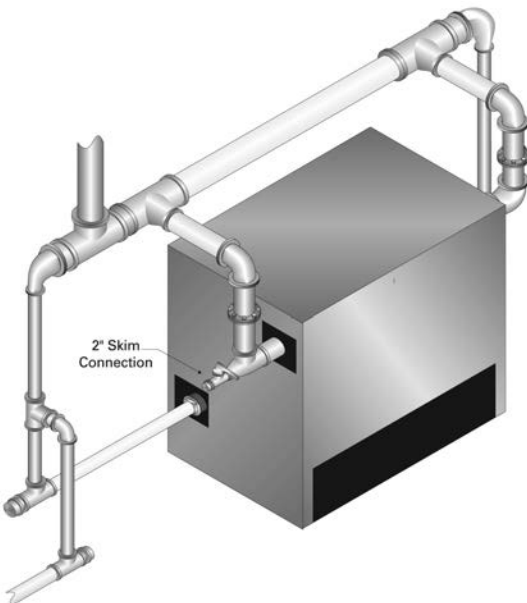

Figure 5.4: Left Hand Piping Arrangement – Typical
7. The piping in these drawings is shown off the right hand side of the boiler. The boiler may also be piped toward the left side as shown in Figure 5.4, typical.